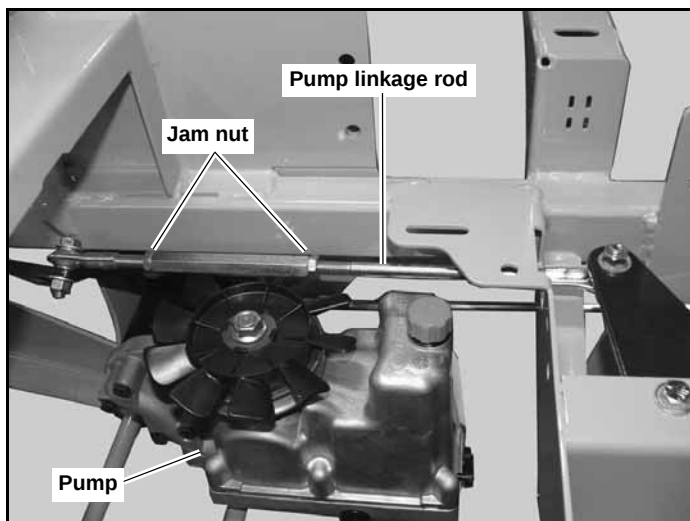

Figure 5-3
6. If wheel(s) are rotating forward, loosen the jam nuts on the pump linkage rods and rotate the rod to lengthen the steering control linkage until the wheel(s) come to a stop. Figure 5-3
8. If wheel(s) are rotating in reverse then loosen the jam nuts on the pump linkage rods and rotate the rod to shorten the steering control linkage until the wheel(s) come to a stop. Figure 5-3